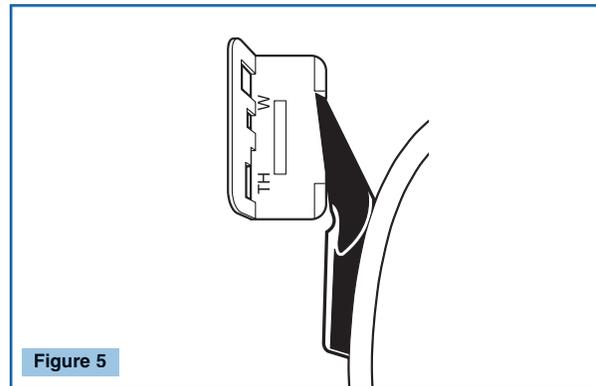

Figure 5
**6. Check gaff profile/contour with Klein gaff gauge.** For pole and tree gaffs, place the side of the gaff along the front edge of the gauge with the gaff point resting in the notch. The point should follow the configuration of the gauge to assure the proper “rounding off” of the tip within 1/4" (6.4 mm) of the point. (See Fig. 5)